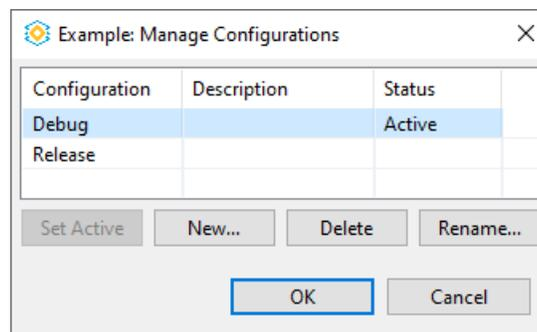

Figure 3.25. Manage Configurations Dialog
- b. The **Manage Configurations** dialog opens (Figure 3.25) for choosing active configuration. By default, a **Debug** configuration creates executables containing additional debug information that lets the debugger make direct associations between the source code and the binary files generated from the original source. A **Release** configuration provides the tools with options setting to create an application with the best performance.